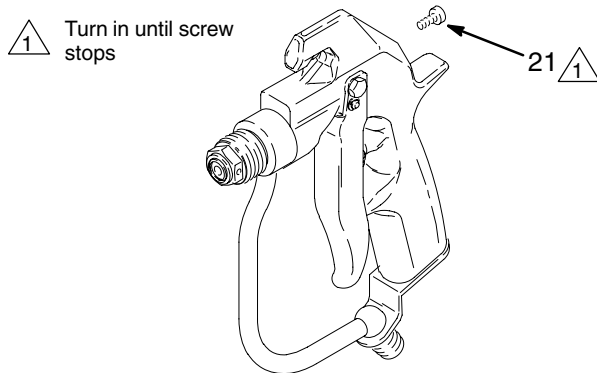

Fig. 21
9. If it was removed, install the spring tension screw (21) at the rear of the gun. Then, turn the screw in until it stops. See Fig. 21.